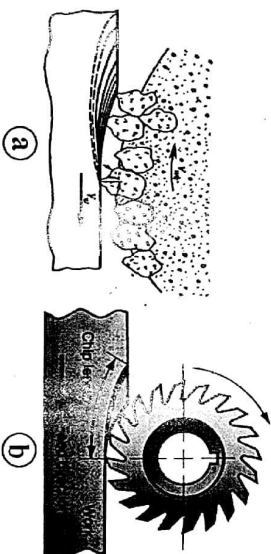

Fig. 1
- (b) Identify the process as shown schematically in the Fig. 1 (a) and (b) and also explain the major differences between them. 4